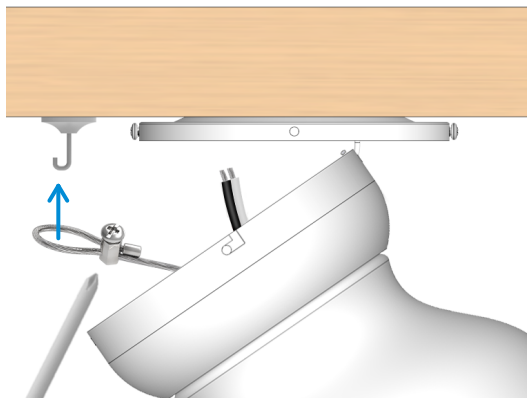

Fig. 5.2
**Option 1:** Refer to Fig. 5.2. Hang the safety rope on the ceiling hook (not included). Using a screwdriver, loosen the screw on the safety rope lock. Pull the safety rope taut and then tighten the screw on the safety rope lock to ensure a firm and secure connection between the safety rope and the ceiling hook. Always double-check to ensure the safety rope is taut.